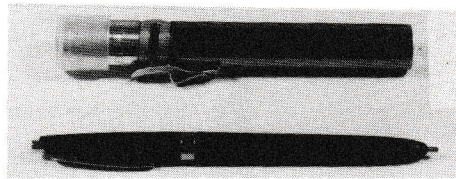
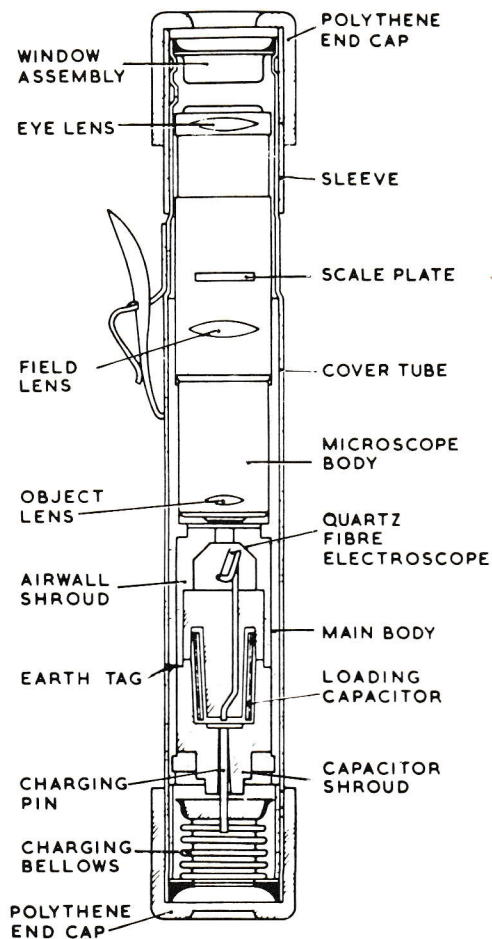

Fig L7.1
Fig L7.2
4. The instrument is similar in size and shape to a fountain pen ie, about  $4\frac{1}{2}$ " long and about  $\frac{3}{4}$ " in diameter (see Fig L7.1). The aluminium barrel contains in its lower portion (remote from the clip) the ionization chamber, quartz-fibre electroscope and charging pin assemblies. The upper portion contains a transparent scale and a magnifying lens system focussed on the quartz-fibre (see Fig L7.2).